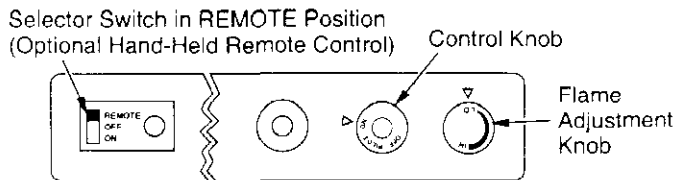

Figure 52- Setting the Selector Switch, Control Knob, and Flame Adjustment Knob for Hand-Held Remote Operation
- After lighting, let pilot flame burn for about one minute. Turn control knob to ON position. Adjust flame adjustment knob anywhere between HI and LO. Slide the selector switch to the REMOTE position (see Figure 52). **Note:** The burner may light if hand-held remote was on when selector switch was last turned off. You can now turn the burner on and off with the hand-held remote control unit.